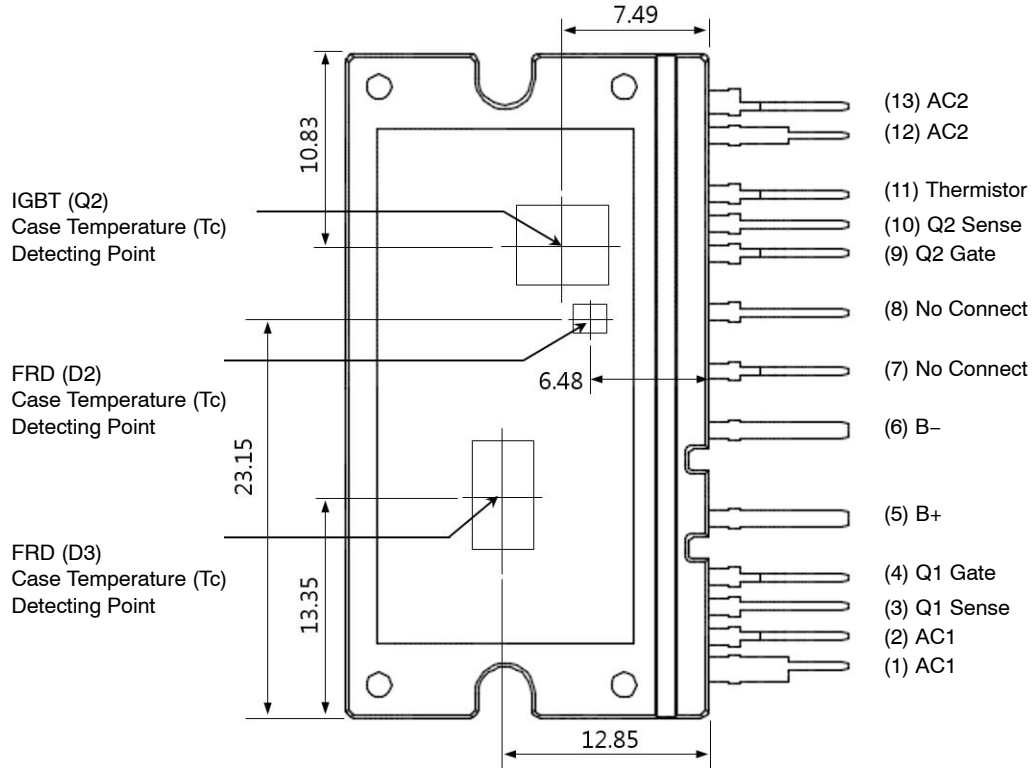
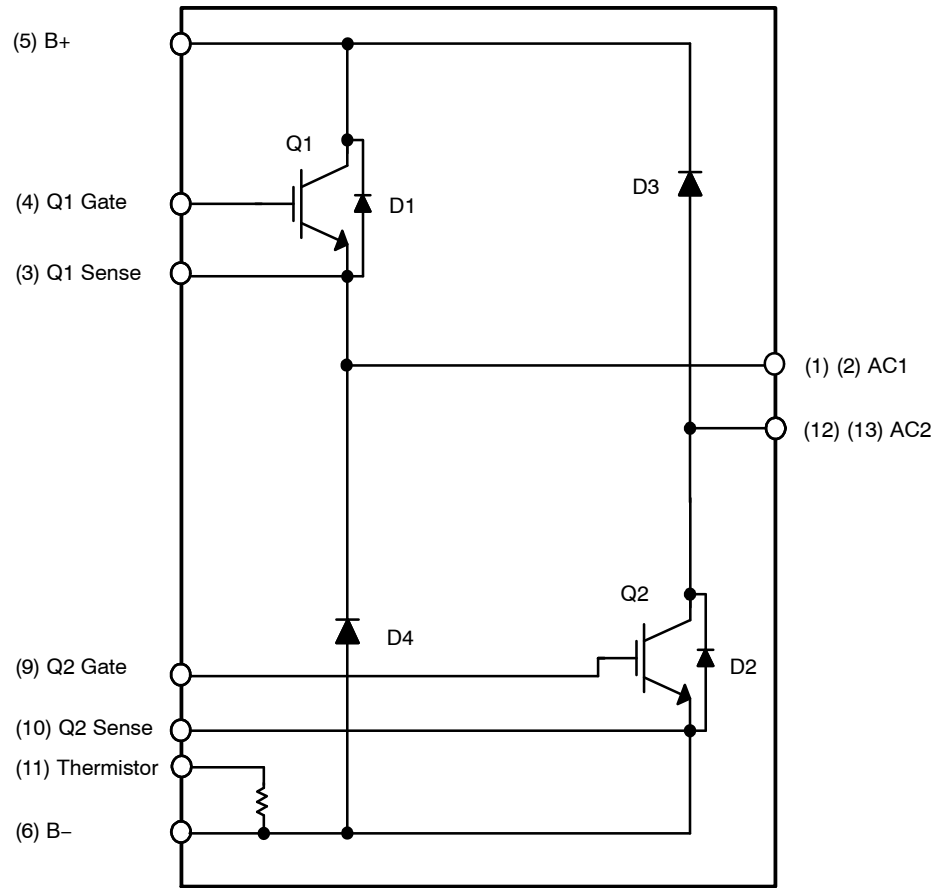

Figure 1. Bottom View
Figure 2. Internal Block Diagram
- 650 V – 75 A IGBT Full Bridge Inverter for DC / AC Power Conversion (Please Refer to Figure 2)
- For the measurement point of case temperature (T_C), please refer to Figure 1 and Figure 2 of chip location, and case temperature and heat sink temperature are defined on the each surface of base plate and heat sink just under the chips. DBC discoloration and Picker Circle Printing allowed, please refer to application note AN-9190 (Impact of DBC Oxidation on SPM Module Performance).